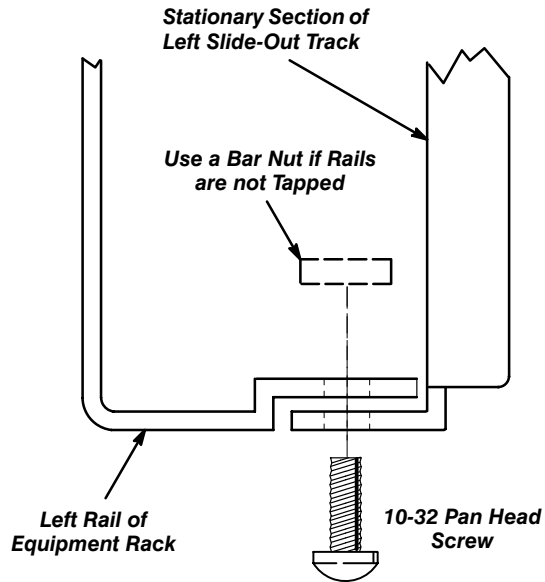

Figure 19: Attaching the Slide-Out Tracks in Front of the Equipment Rack Rails
- a. To mount the slide-out tracks in front of the equipment rack rails, use one of the following methods and refer to Figure 19.